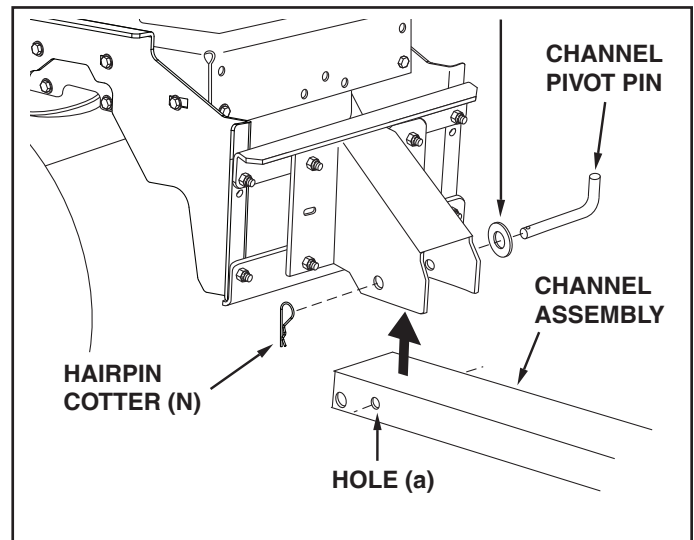

FIGURE 15 (Right Hand Side View)
28. Assemble the 1/2" washer (P) onto the channel pivot pin. See figure 15.
29. Attach the channel assembly to the tractor by placing the end of the channel assembly up inside the pivot support bracket on the tractor. Align hole (a) in the channel assembly with the hole in the pivot support bracket. Insert the channel pivot pin through the aligned holes from the left side, and secure it with a hairpin cotter (N).
8. Remove the hairpin cotter from the channel pivot pin and remove the pivot pin from the channel assembly. See figure 15 on page 8.